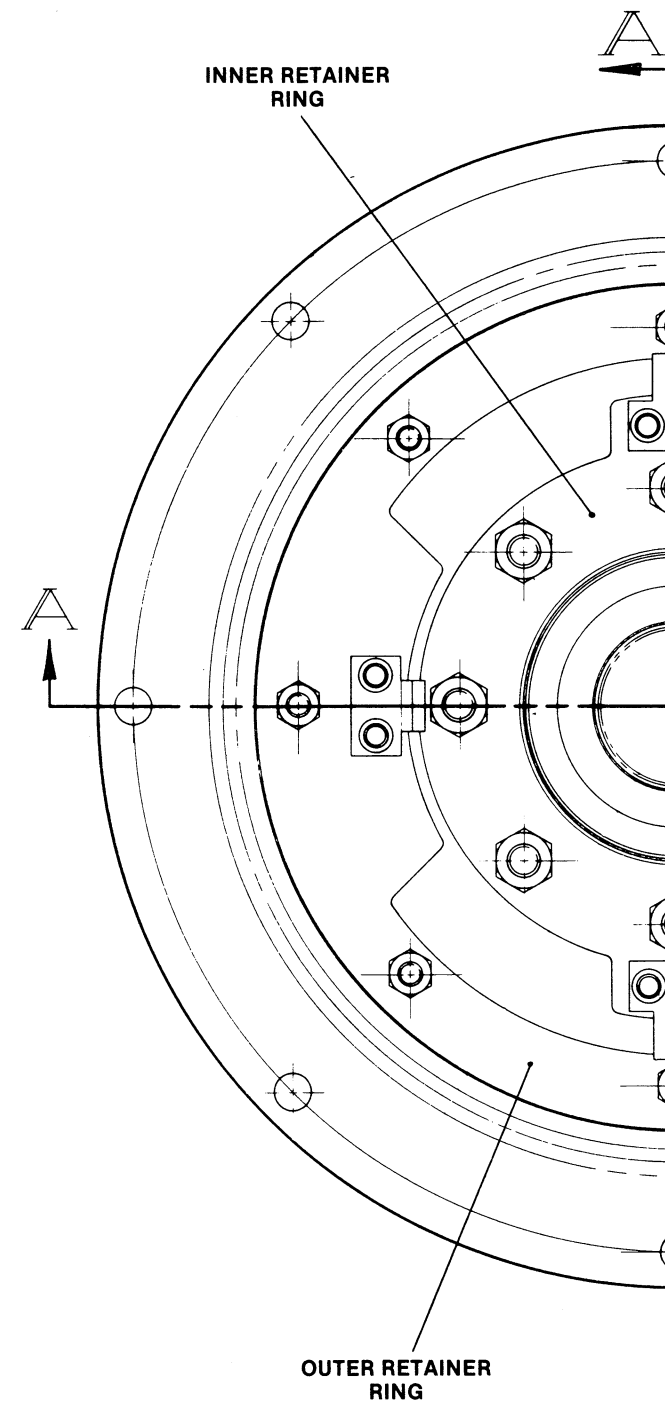

**Figure 10-3. Removing or Installing Valve and Filter Carrier Assembly and Forward Shaft Collector.**
1. To install the pump adapter forward shaft collector (Figure 12-1, 36 to 43), remove the valve and filter carrier (Figure 12-4, 10) and the existing forward shaft collector (Figure 12-1, 7). Note that both of these items must be removed or loosened because of jumper tubes (Figure 12-4, 16) between them. See Figure 10-3.